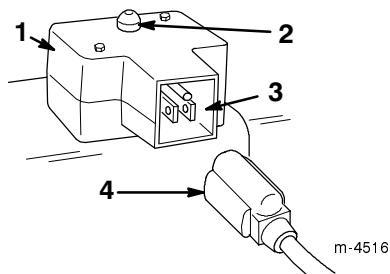

Figure 18
- **Electric Starter** (Fig. 18)—Push the starter button to start the engine.
- **Power Cord** (Fig. 18)—Connect to the electric starter and an electrical outlet when starting the engine.
- A. Connect the power cord to the snowthrower (Fig. 18) and to a standard household power outlet.